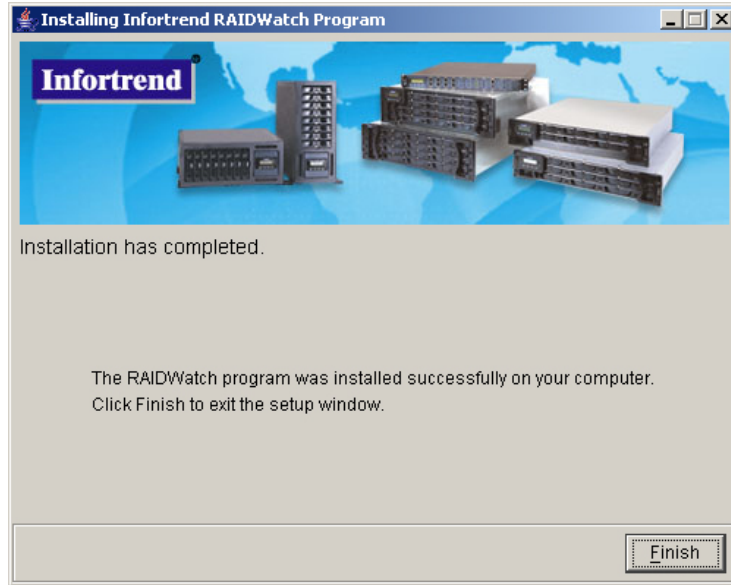

Figure 3-12: Successful Installation
-  **Step 2.** Once the software has been successfully installed, a window indicating the successful installation (see *Figure 3-12*) will appear. To complete the process and exit the window, click *Finish*.